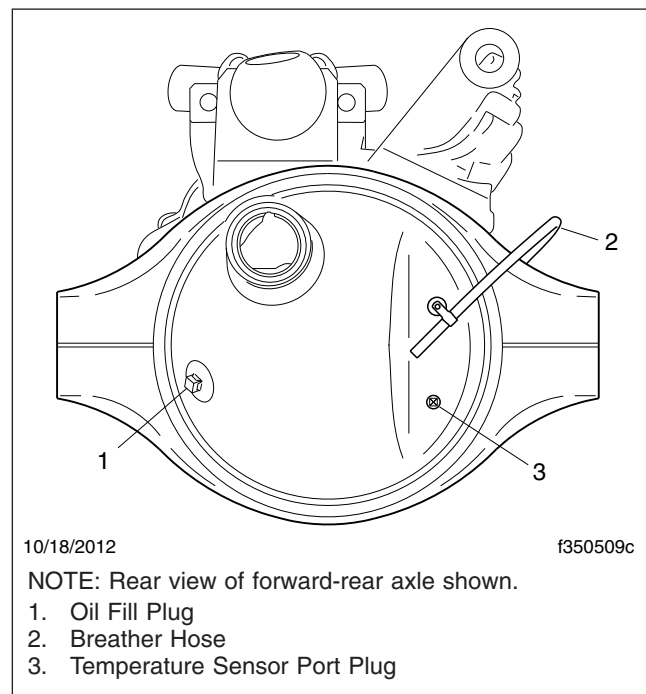
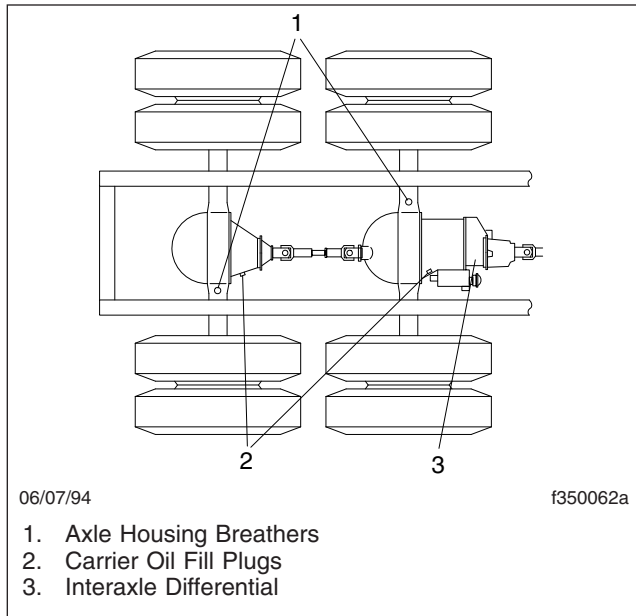
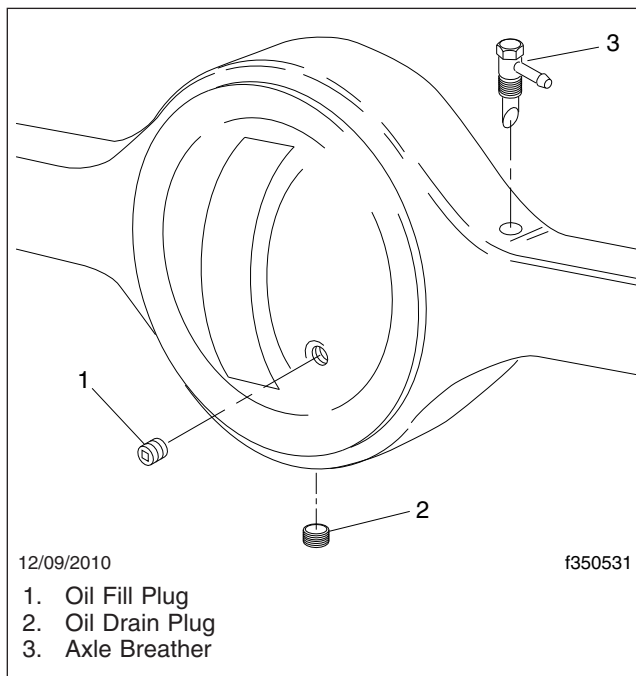

Fig. 3, Fill Hole Plug Location, Detroit Tandem Axle
Fig. 4, Fill Hole Plug Locations, Meritor Axles
Fig. 5, Fill Hole Plug Location, Dana Spicer Axles
2. With the axle level and all wheels on the ground, clean the oil fill hole plug and the area surrounding it, then remove the fill plug. For Detroit axles, see Fig. 3; for Meritor axles, see Fig. 4; for Dana Spicer axles, see Fig. 5.